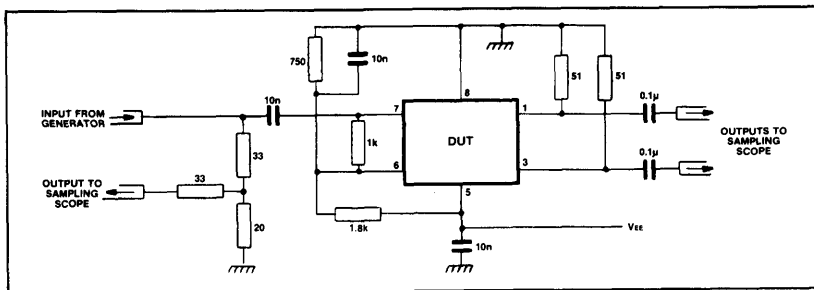

Fig.5 Test circuit
2. The outputs are in the form of complementary free collectors with 1.6mA available from them over full military temperature range (A grade). The outputs can be interfaced to ECL or Schottky TTL as shown in Fig. 5. Interfacing to TTL at frequencies above 20MHz requires low capacitance interconnections and the use of Schottky TTL.